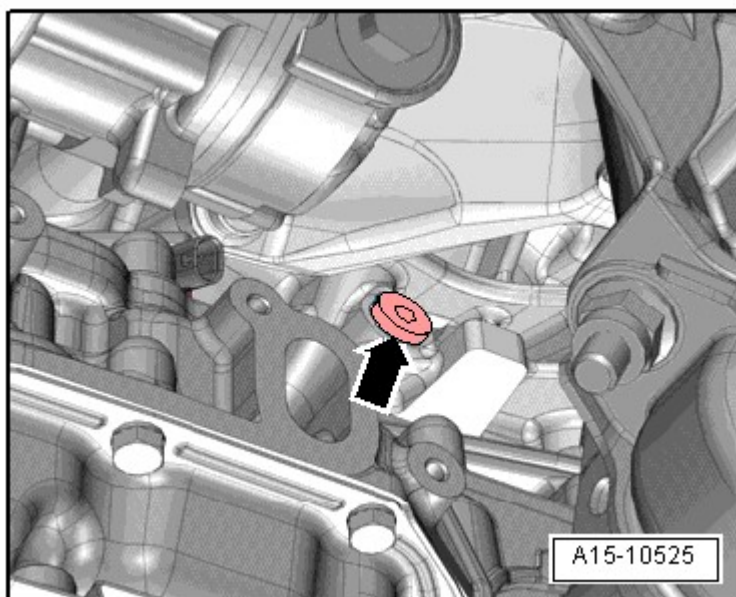

Fig. 92: Identifying Locking Bolt**Courtesy of AUDI OF AMERICA, LLC**
-- Install the "TDC" marking locking bolt. Refer to **Fig. 92**.